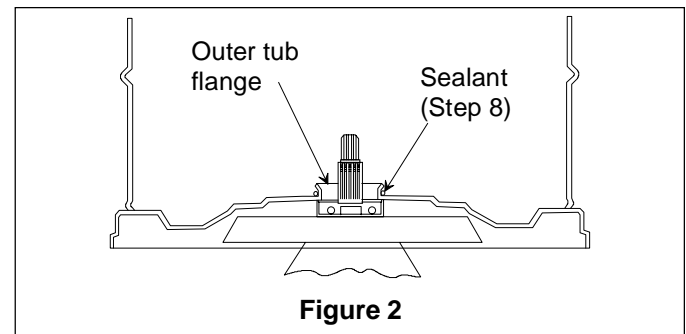

Figure 2
8. Apply a small amount of sealant, part number 27615P (available from parts distributor), around outer surface of tub flange. See Figure 2.